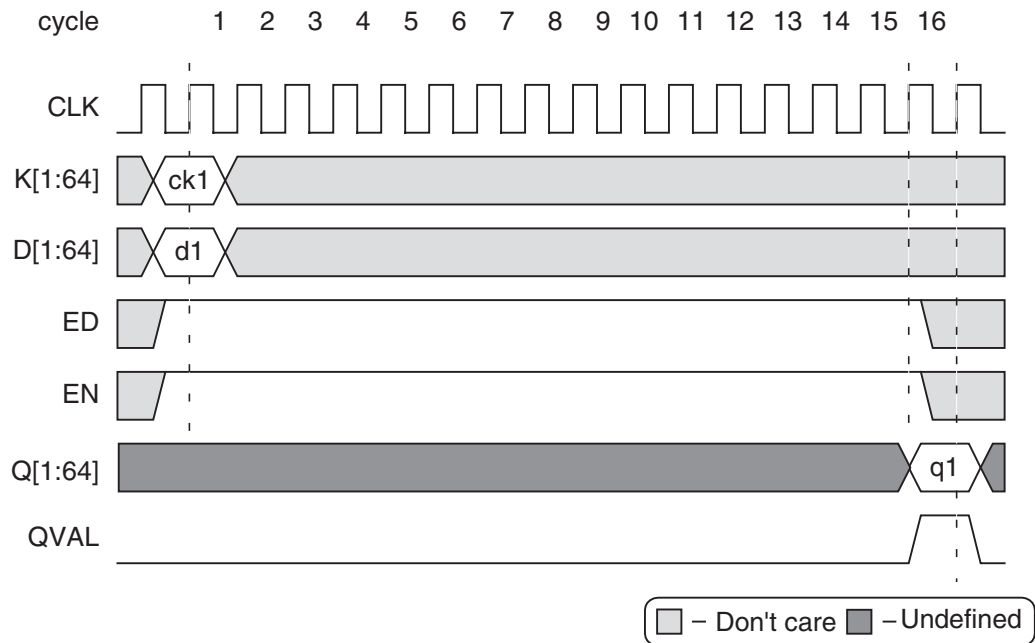

Figure 6 • Example Encryption Sequence
1. $K[1:64]$ is set to the cipher key (ck1 in Figure 6) to encrypt the data.
2. $D[1:64]$ is set to the plaintext data (d1 in Figure 6) to be encrypted.
After 16 clock cycles of the EN input being held continuously at a logic '1' value, the QVAL signal will transition from logic '0' to logic '1' and remain valid for one clock cycle, indicating that valid ciphered (encrypted) data (shown as q1 in Figure 6) is available on the $Q[1:64]$ outputs.